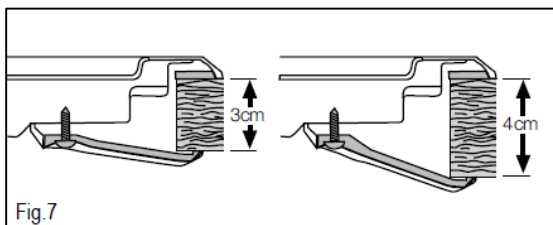

Fig.7
3. Secure the hob to the worktop using brackets and screws supplied, as shown in Fig.7. Remove any excess sealant after tightening the brackets. Do not over-tighten the fixing